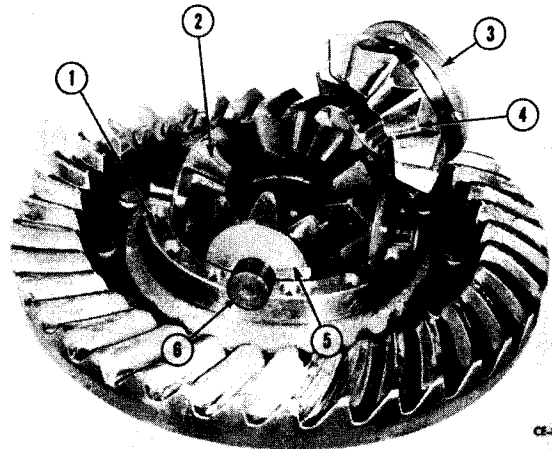

Figure 6-29
Lubricate spider (6, Fig. 6-29), pinion gears (2) and thrust washers (5) with new axle lubricant.